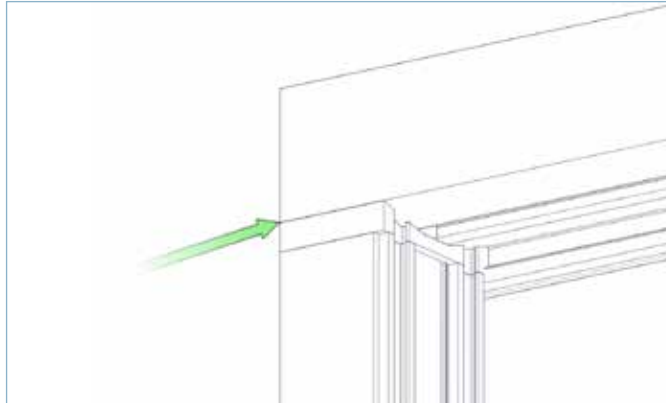

FIG 5D
▶ **5.5.** Align the end of the top track with the top of the jamb as shown in FIG 5D.